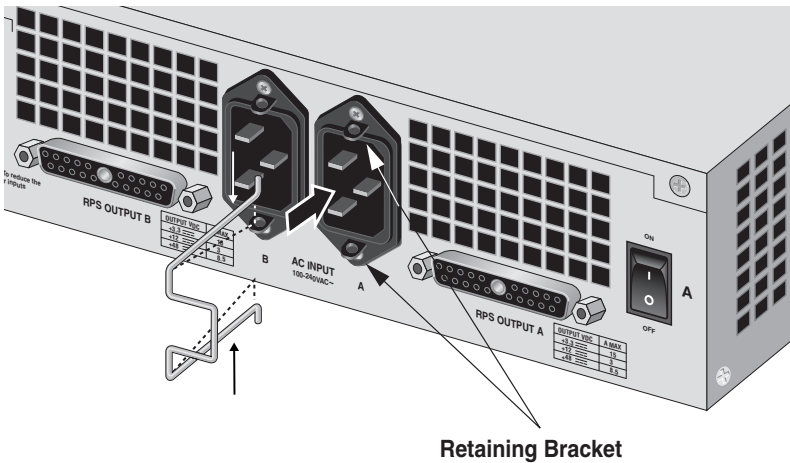

Figure 6. Installing a Power Cord Retaining Clip
1. Press the sides of the clip toward the center and insert the short ends into the holes in one of the retaining brackets (see Figure 6).